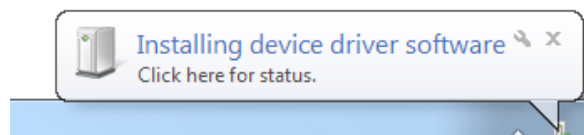

Figure 19. Installing driver windows notification
8. Connect the USB cable from the DA728x motherboard to the computer. Windows will now install the required driver (Figure 19).